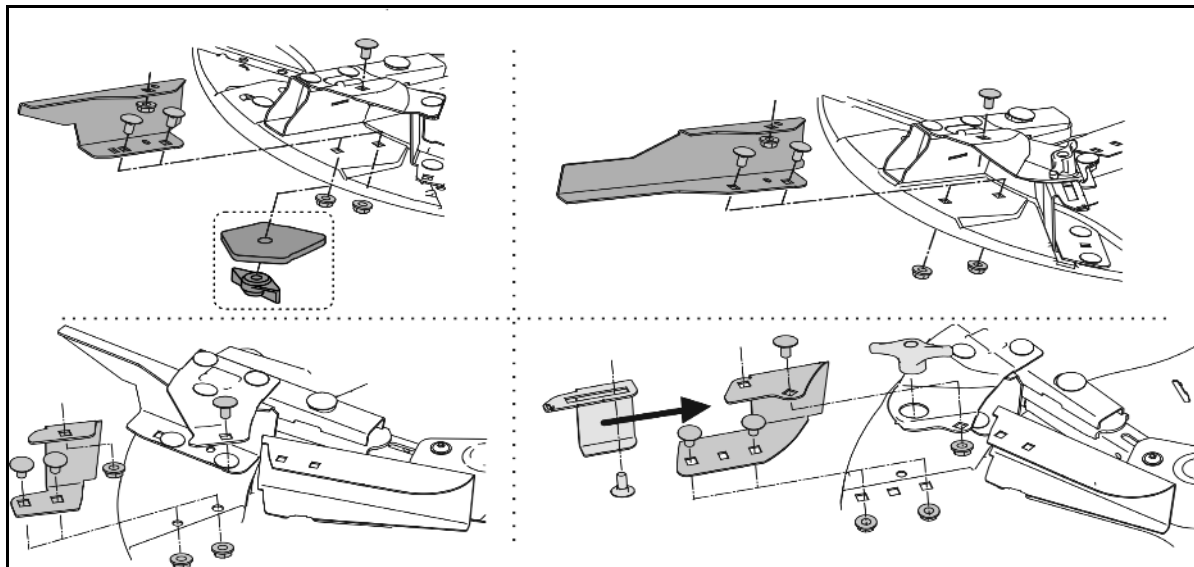

Fig. 70
1. Loosen the rear lock nuts on both sides when viewed in the direction of travel (see arrow) (Fig. 70/1) by turning them anti-clockwise.
2. Turn the nuts on both sides evenly to the left when viewed in the direction of travel (see arrow) (Fig. 70/2).
The adjustment travel of the nuts (Fig. 70/2) must be equal on both sides of the floor belt. Do not turn either nut (Fig. 70/2) more than a ½ spanner turn. Tighten the lock nuts and check whether the belt conveyor is driven evenly again.